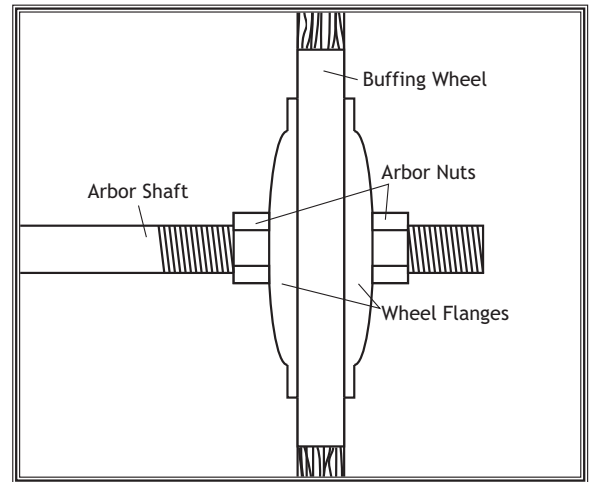

Figure 7. Buffing wheel assembled on arbor.
4. Slide the buffing wheel assemblies onto each end of the arbors and securely tighten each of the arbor nuts, as shown in **Figure 7**.